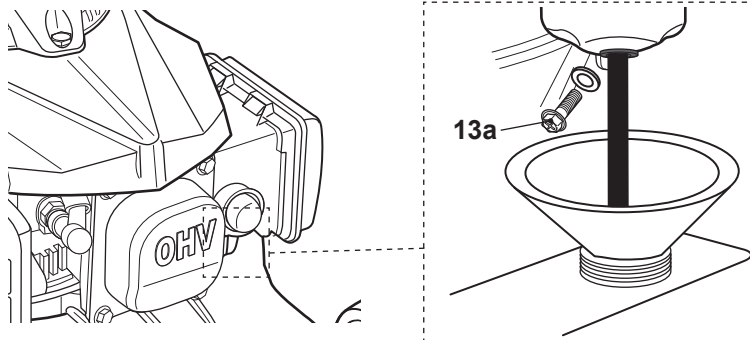

Fig. 25
3. Unscrew the fuel drain screw (13a) and let the fuel run into the container (Fig. 25).